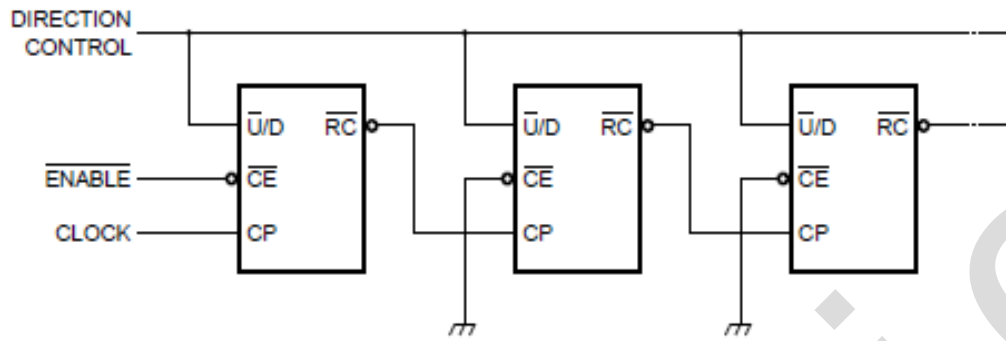
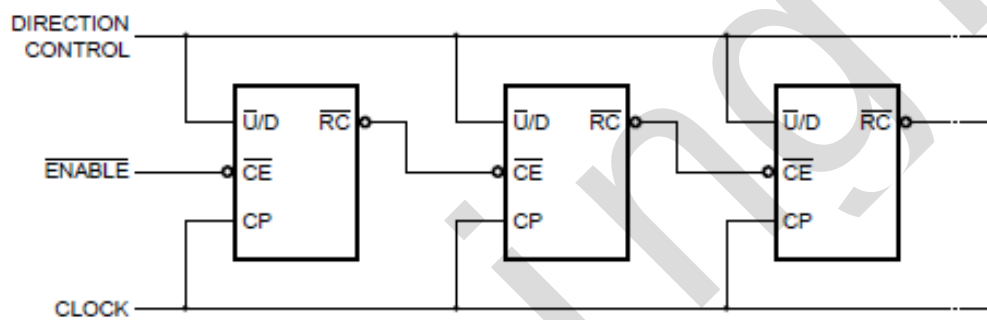
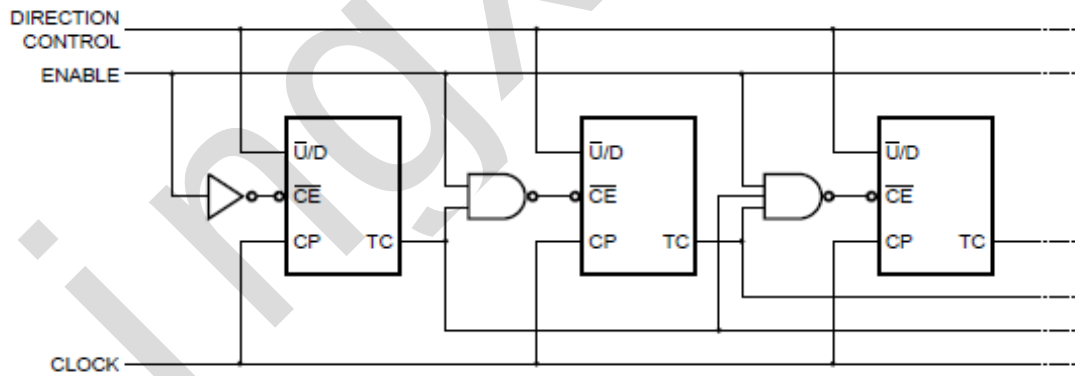

Figure 4. N-stage ripple counter using ripple clock
Figure 5. Synchronous n-stage counter using ripple carry/borrow
Figure 6. Synchronous n-stage counter with parallel gated carry/borrow
Also, the $\overline{U}/D$ input should be changed only when either $\overline{CE}$ or CP is HIGH. Overflow/underflow indications are provided by two types of outputs, the terminal count (TC) and ripple clock ($\overline{RC}$). The TC output is normally LOW and goes HIGH when a circuit reaches zero in the count-down mode or reaches '15' in the count-up-mode. The TC output will remain HIGH until a state change occurs, either by counting or presetting, or until $\overline{U}/D$ is changed. Do not use the TC output as a clock signal because it is subject to decoding spikes. The TC signal is used internally to enable the $\overline{RC}$ output. When TC is HIGH and $\overline{CE}$ is LOW, the $\overline{RC}$ output follows the clock pulse (CP). This feature simplifies the design of multistage counters as shown in Figure 4 and Figure 5.
In Figure 4, each $\overline{RC}$ output is used as the clock input to the next higher stage. It is only necessary to inhibit the first stage to prevent counting in all stages, since a HIGH on $\overline{CE}$ inhibits the $\overline{RC}$ output pulse as indicated in the function table. The timing skew between state changes in the first and last stages is represented by the cumulative delay of the clock as it ripples through the preceding stages. This can be a disadvantage of this configuration in some applications.
Figure 5 shows a method of causing state changes to occur simultaneously in all stages. The $\overline{RC}$ outputs propagate the carry/borrow signals in ripple fashion and all clock inputs are driven in parallel. In this configuration the duration of the clock LOW state must be long enough to allow the negative-going edge of the carry/borrow signal to ripple through to the last stage before the clock goes HIGH. Since the $\overline{RC}$ output of any package goes HIGH shortly after its CP input goes HIGH there is no such restriction on the HIGH-state duration of the clock.
In Figure 6, the configuration shown avoids ripple delays and their associated restrictions. Combining the TC signals from all the preceding stages forms the $\overline{CE}$ input for a given stage. An enable must be included in each carry gate in order to inhibit counting. The TC output of a given stage is not affected by its own $\overline{CE}$ signal therefore the simple inhibit scheme of Figure 4 and 5 does not apply. Inputs include clamp diodes. This enables the use of current limiting resistors to interface inputs to voltages in excess of V_{CC} .